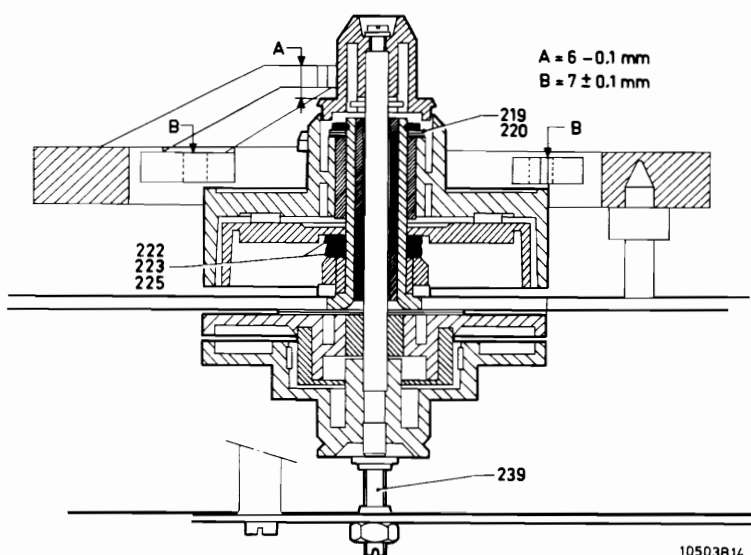

Fig. III-22
Place the jig for measuring the reel disc height in the recorder and measure distance B as shown in Fig. III-22. Use for this tail of a caliper gauge. Check likewise the distance B at the point diametrically opposite the first test point. These two distances must be equal. The distance B can be varied by adding or taking off rings, items 222, 223, 225. Check also the vertical play of the lower drum. It should be 0.15 mm, to be adjusted with the rings items 219-220.
Check the distance A with the measuring plate for the height of the reel disc and a caliper gauge. Correct possible deviations by adjusting the thrust bearing item 239 (Fig. III-22).